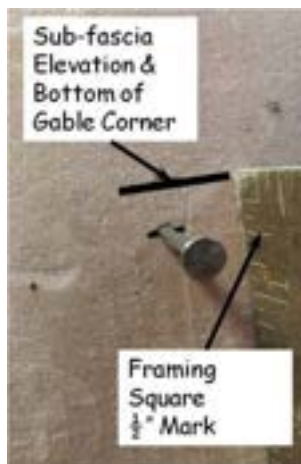

Figure 11-1. Siding Layout.
2. At each corner on the eave sides of the house, use a framing square or level to transfer the elevation of the bottom of the sub-fascia to the wall as shown in Figure 11-1. With the framing square blade (long leg) firmly against the wall, slide the square up until the tongue (short leg) contacts the bottom of the sub-fascia, and make a mark on the wall at the top of the square (this will be the **sub-fascia elevation and bottom of the gable corner blocking**) and $\frac{1}{2}$ " below the top of the square (this will be the **top of the siding corner, or bottom of the soffit**). Drive an 8d nail into the corner stud at the vertical center of the $\frac{1}{2}$ " mark.